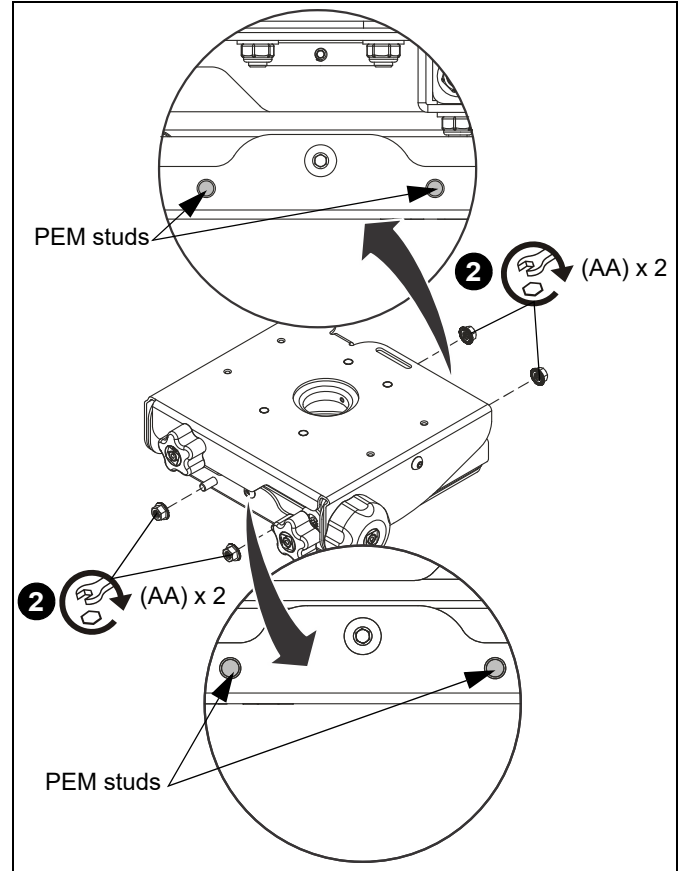

Figure 2
2. Loosely add four M8 flange nuts (AA) on two PEM studs at each end of the VCT mount (G). (See Figure 2)